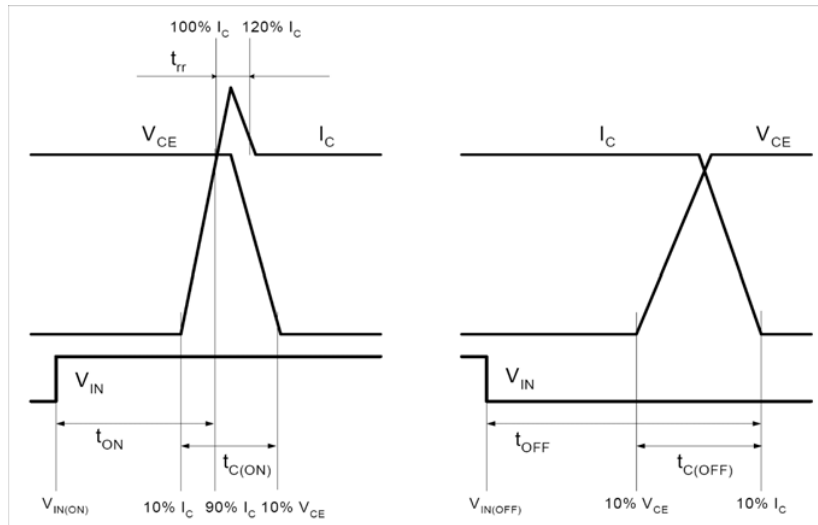

Figure 4. Switching Time Definitions
- t_{ON} and t_{OFF} include the propagation delay time of the internal drive IC. t_{C(ON)} and t_{C(OFF)} are the switching time of IGBT itself under the given gate driving condition internally. For the detailed information, please see Figure 4.